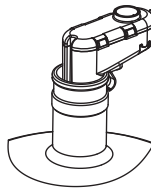
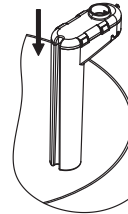

Figure 12a
Figure 12b
- Put the shutoff all the way into the neck of the bowl (e.g. bottle, fig. 12a), or a vessel wall (e.g. pot, fig. 12b).